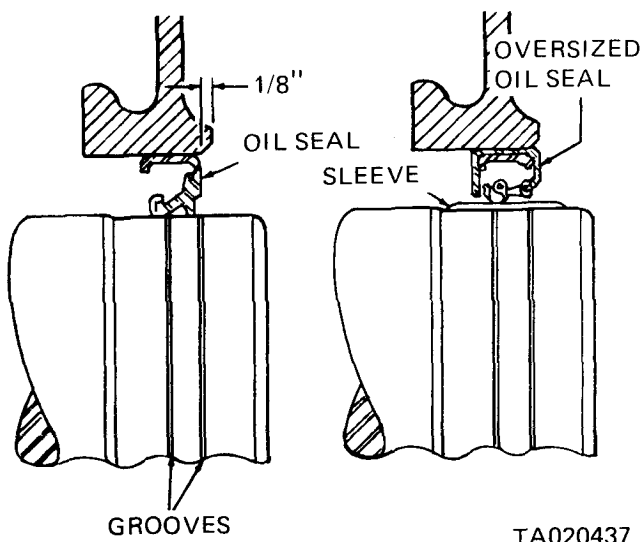

Figure 3-104. Seal positioning on grooved crankshaft.
(2) If the rear seal contact area on the crankshaft is grooved from excessive wear, the seal may be pressed into the flywheel housing $\frac{1}{8}$ inch from its original position or install an oil seal sleeve as shown in figure 3-104. An oversized seal is required when the oil seal sleeve is used.